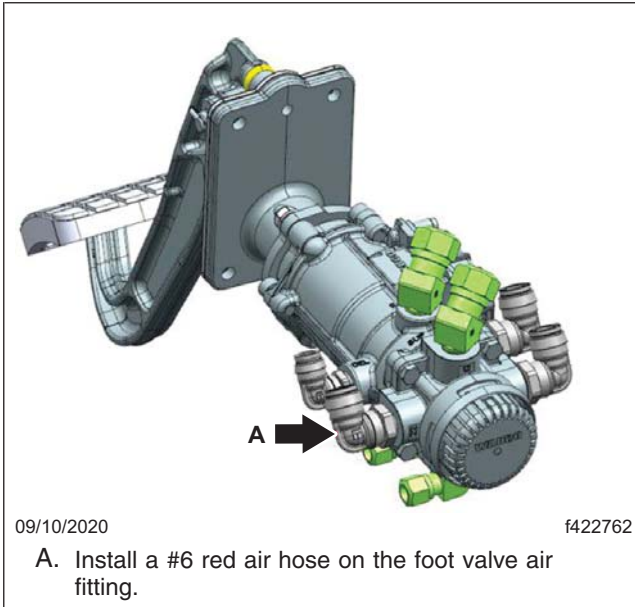
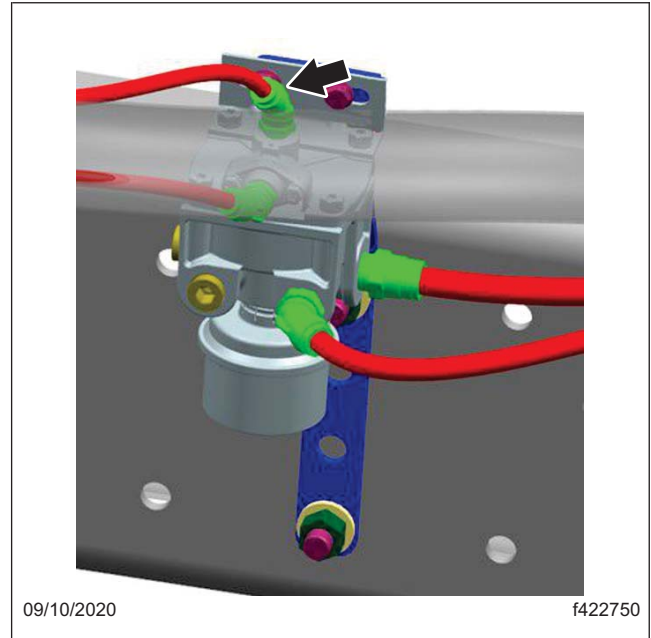

Fig. 26, Foot Valve, Air Fitting
Fig. 27, R-12 Relay, Top Control Port
11. Install a #6 red air hose on the foot valve air fitting, shown in Fig. 26, to the top control port on the R-12 relay. See Fig. 27.